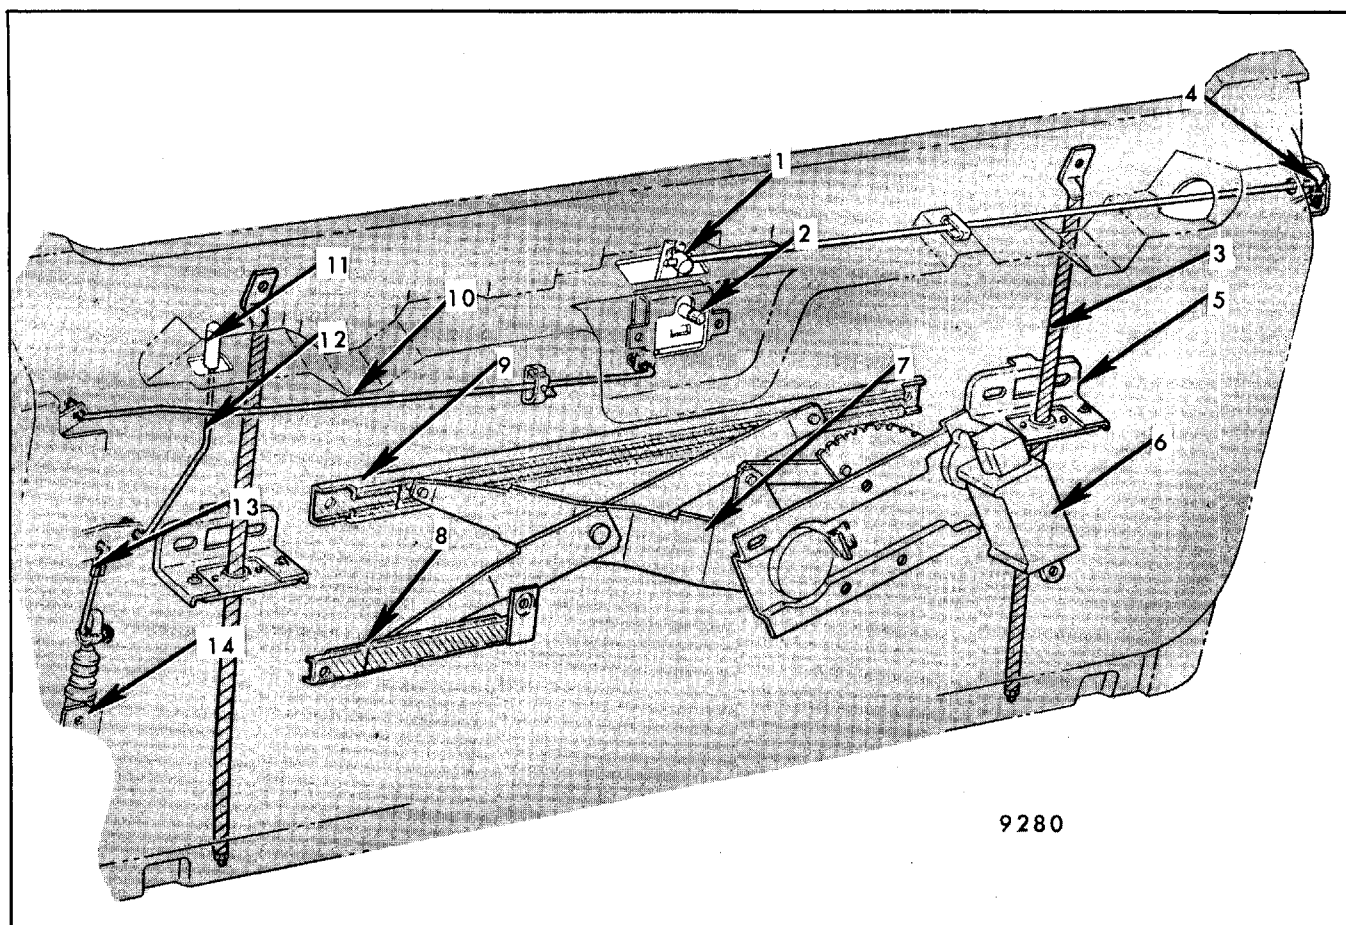

Fig. 7-139 - Tailgate Lock Synchronization Rods
3. Disengage left upper remote synchronization locking rod attaching swivel from clip at center remote assembly, Figure 7-139, item 1.
3. Disengage left upper remote synchronization locking rod attaching swivel from clip at center remote assembly, Figure 7-139.